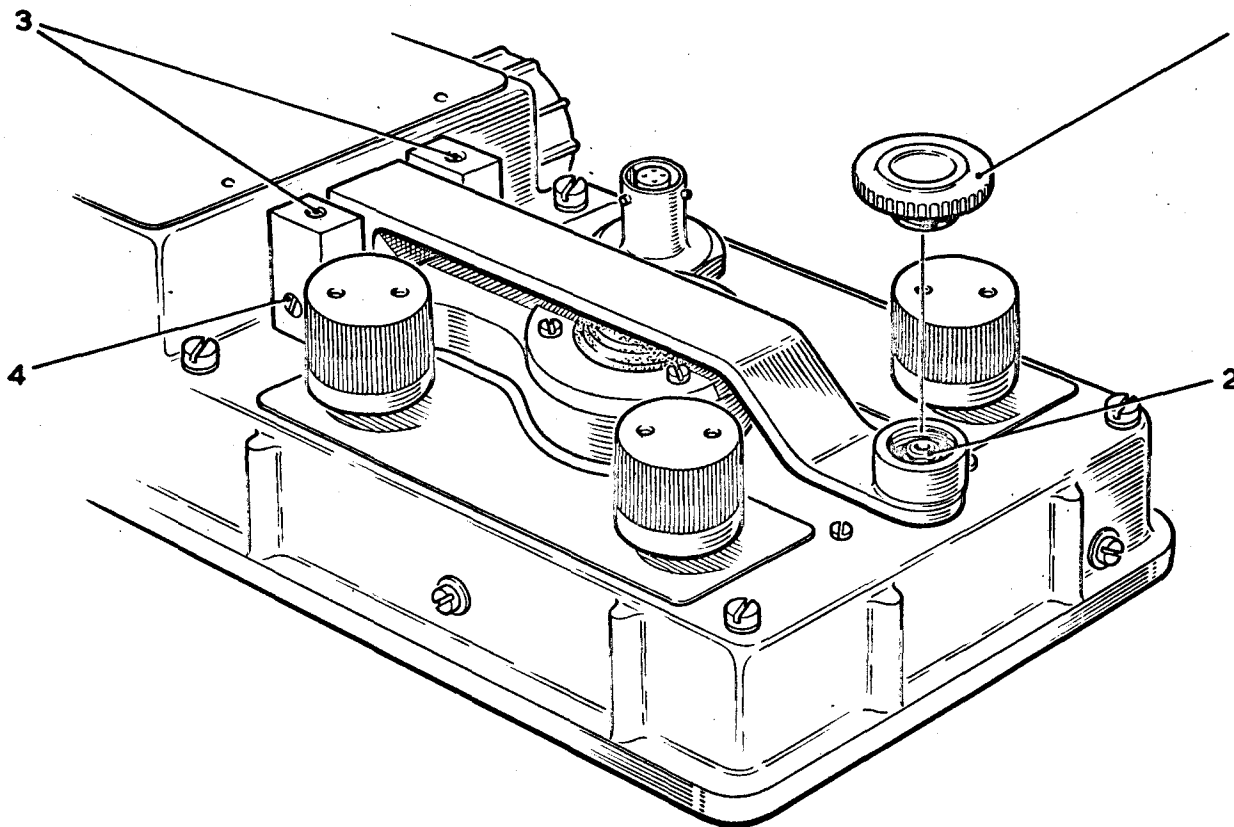

Fig 1 - Telegraph key adjustments
2. The only adjustments are made to the Key Telegraph, ie key travel adjustment and key side play and tension adjustment. The travel may be adjusted by removing the protective plug (Item 1 Fig 1) and adjusting the nut (Item 2 Fig 1) until the desired travel is achieved. The side play and tension may be adjusted by slackening the grub screws (Item 3 Fig 1) and adjusting pivot screw (Item 4 Fig 1) for desired tension. These grub screws should be removed and the threads coated with Varnish Insulating, Anti-track, Air Drying, (H1/8010-99-942-8917), before carrying out any adjustments. They should be screwed down until the pivot screw (Item 4 Fig 1) is locked in position.